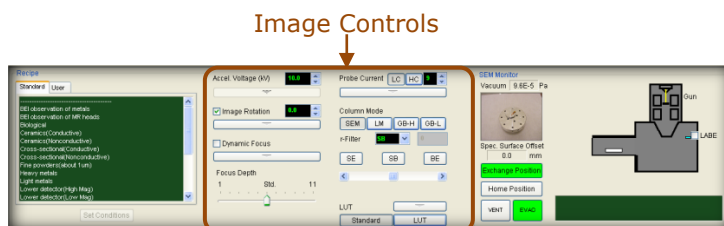

Fig. 3: Operation-settings area using Observation->Condition buttons.
- a. Click Condition in the Sub **BUTTONS** to open the “Image Controls” in the Operation-settings AREA (see Fig. 3 below). Check the initial settings, particularly that the Probe Current is set to LC-8 or 9 and the r-filter is set to SB and that the detector is set to SEI in the Operation-conditions AREA.